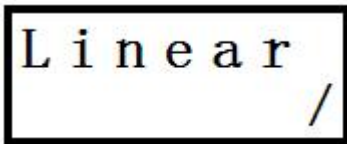

Figure38
12.2 Enter "Confirm" once , and then screen display "Linear" (Current characteristic function state) as shown in Figure 38;